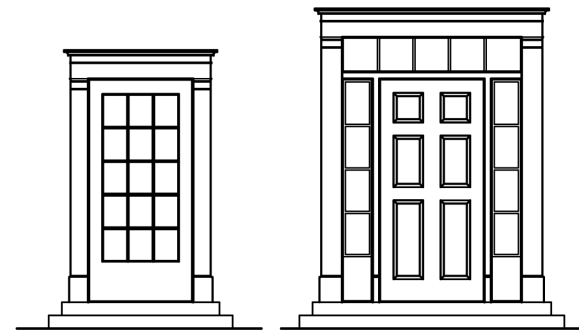

Figure 27
- » Exterior doors shall be a minimum of 3'-0" x 6'-8" with raised or recessed panels. Doors may be set within door surrounds with sidelight panels. See Figure 27.